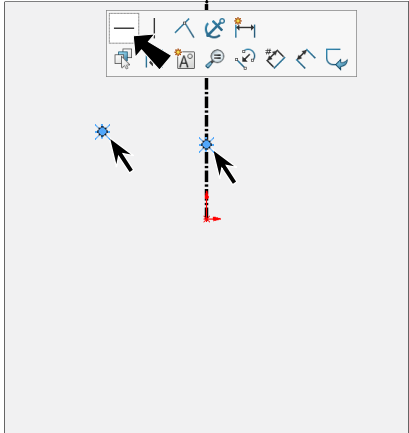

Fig. 8
Step 8. **Ctrl click both points** to select both. Release Ctrl key and click **Make Horizontal**  on the context toolbar, **Fig. 8**.